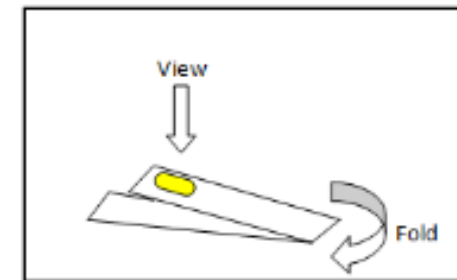

Figure 2
- Fold white plastic handle under the test pad (Figure 2)